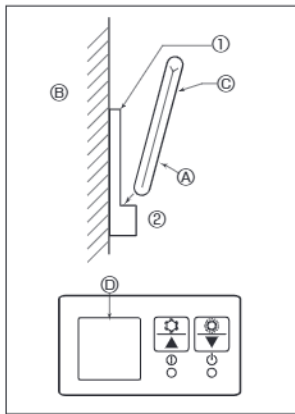
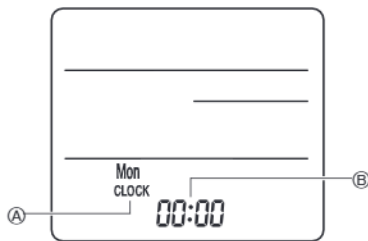

Fig. 6-7
Fig. 6-8
2) Installation method (Fig. 6-7)
- ① Attach the remote controller holder to the desired location using 2 tapping screws.
- ② Place the lower end of the controller into the holder.
- ④ Remote controller ⑤ Wall ⑥ Display panel ⑦ Receiver
3) Setting (Clock setting) (Fig. 6-8)
- ① Insert batteries or press the **CLOCK** button with something sharp. [CLOCK] (A) and [] (B) blinks.
- ② Press the **RESET** button with something sharp.
- ③ Press the **↑** button to set the time. Press the **DAY** button to set the Day.
- ④ Press the **CLOCK** button with something sharp at the end. [CLOCK] and [] lighted.